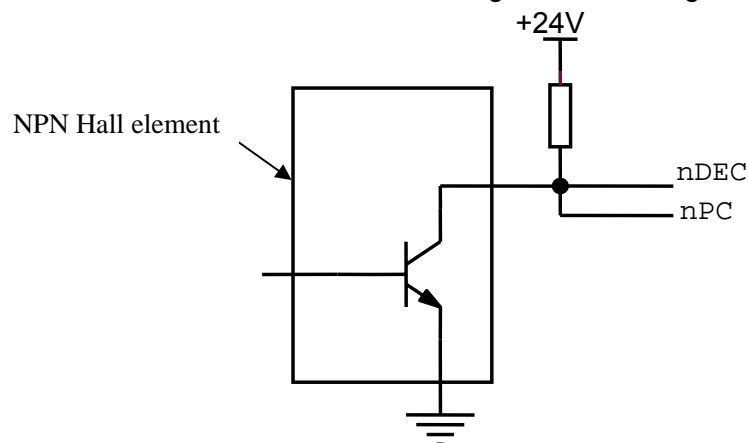

Fig. 2-9 Wiring by a NPN Hall element
b) The wiring of NPN Hall element taken as both DEC signal and zero signal is shown in Fig. 2-9: